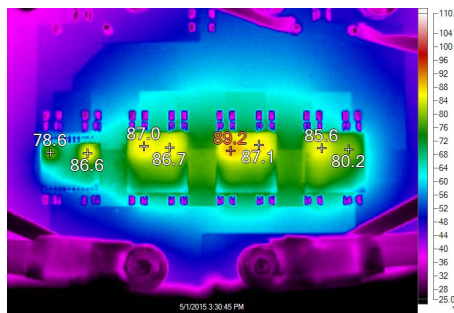

Figure 4. Thermal Picture at $V_{IN} = 12V$, $V_O = 1.0V/125A$, 400LFM Airflow, Maximum Temperature Rise = 66.2°C, $T_A = 23°C$
Figure 4 illustrates the timing position and amplitude of the capacitor's current (red curve) with respect to T_{on} pulses. It should be noted that the Inrush Controller generates a single current pulse during each cycle. The capacitor's charge is complete when input voltage drops below capacitor voltage. The input power line is isolated from the rest of the circuitry by the diode bridge circuit, and the inductor discharges into the capacitor. Then SW1 is turned off (not conducting) up to the end of the cycle. The algorithm is based on reactive power transfer, hence, losses are limited mostly to those on strain resistance.
Figure 4 shows that the capacitor's pre-charge is finalized at time-stamp 0.066 ms. After that, the Power Good (PG) signal is generated and load is activated. The capacitor's current shows up as negative beginning at time-stamp 0.066 ms, because current is sourced from the capacitor when the load is activated. The PG signal can be delayed with respect to end of pre-charge of capacitor C so that the load can stabilize before executing other functions. The overload threshold is programmable, too, and is set to 3.5 A.
The algorithm provided in the flowchart (*Fig. 4*) is based on PIC Basic Pro Compiler (see the listing). It starts by measuring the input voltage to detect its range with five magnitude comparisons for the volt's units. There are five different ranges for the full scale of five volts. If the voltage is less than
The LTM4675 utilizes a constant frequency peak current mode control architecture, which enables cycle-by-cycle current limit and easy current sharing among phases when the channels are operated in parallel. For higher output current capability, it's easy to parallel multiple LTM4675 modules. Furthermore, the LTM4675 can be used as a master to drive non-PSM power modules to provide much higher output current. For example, the LTM4675 can drive three LTM4630s to provide up to 125A output current. Figure 4 shows the thermal picture of this application. With 400LFM of airflow, the hot spot temperature rise is only 66.2°C. The uniform thermal distribution among the modules is due to excellent current sharing performance.